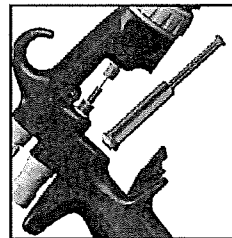

Fig. 33
8. Push rear seal firmly into hole up to shoulder, using Service tool. (See figs 33 & 34)